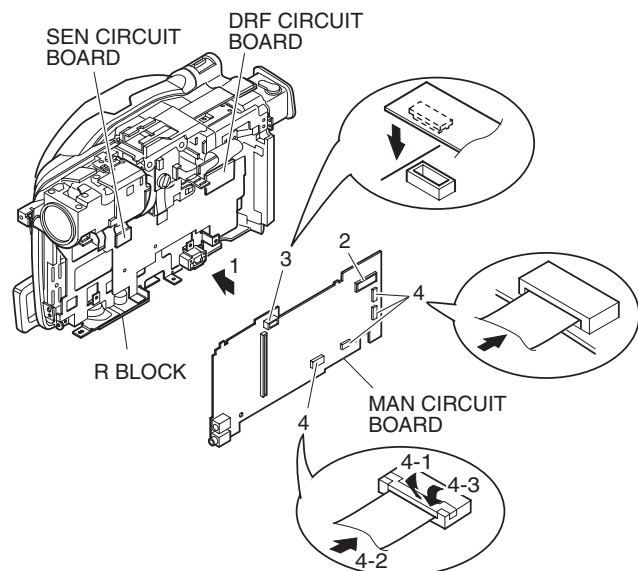

Fig. 4-7-5 Setting to Service Position (A)
(1) Setting to service position (A) (Fig. 4-7-5)